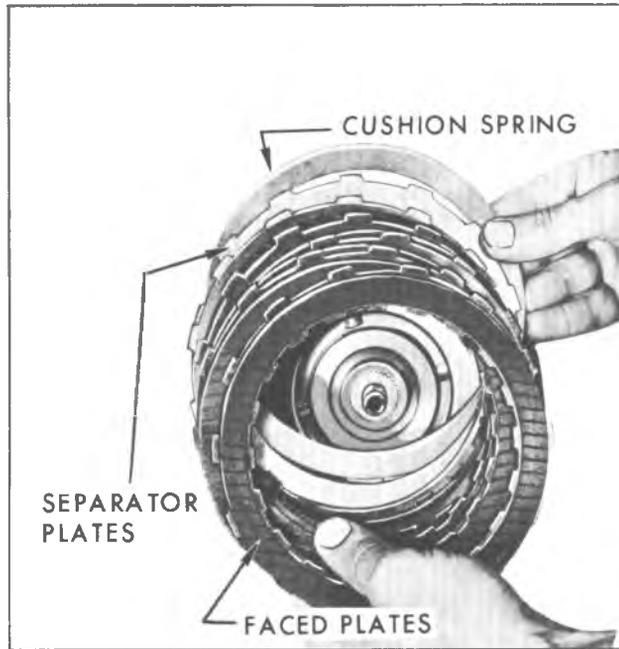

Fig. 7A-83B--Removing Forward Clutch, Clutch Pack
2. Remove face plates, steel separator plates and cushion spring (fig. 7A-83B).